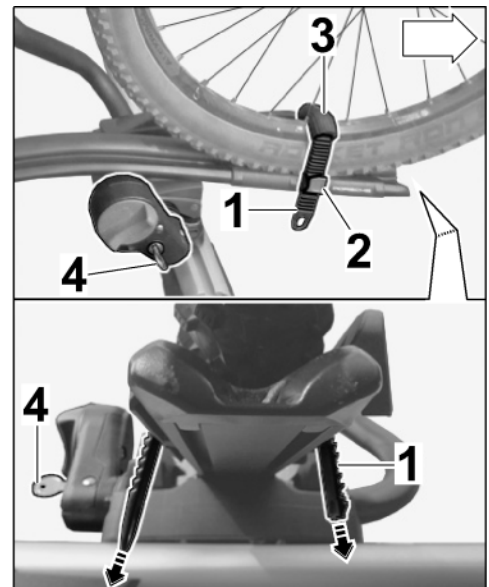

Figure 16
- 5.2.6 Guide tension strap between the spokes over the wheel rim. Center the rim protector over the wheel rim (⇒ *Figure 16 -top-*).
- 5.2.7 Insert tension strap into the turnbuckle. Tighten tension strap on both sides in such a way (⇒ *Figure 16 -arrows-*) that the tension strap secures the wheel symmetrically (⇒ *Figure 16 -bottom-*).
- 5.2.9 Close the lock on the rotary knob (⇒ *Figure 16 -4-*). The frame holder (claw) can no longer be opened.